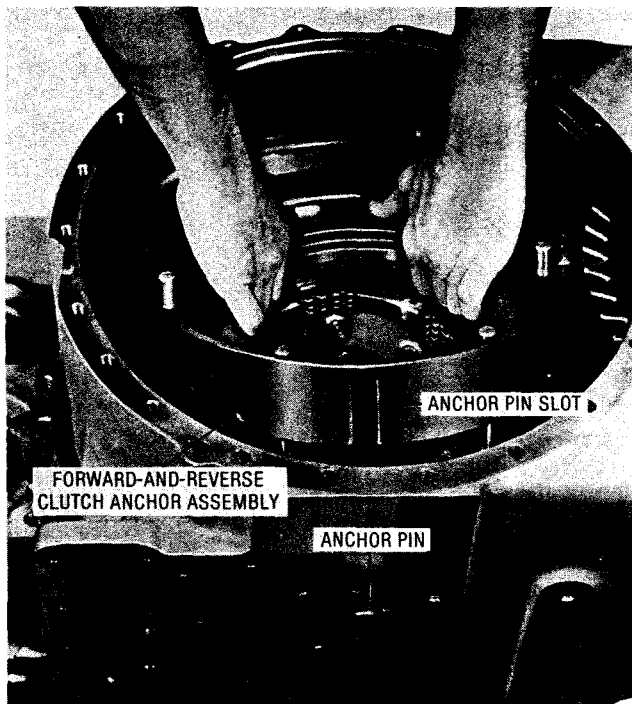

Fig. 5-56. Removing forward-and-reverse clutch anchor assembly
a. Remove the forward-and-reverse clutch anchor assembly (fig. 5-56). Do not remove six clutch anchor pins 21 (foldout 9,B) from anchor 20. Remove the anchor pin from the valve body mounting pad (fig. 5-56).